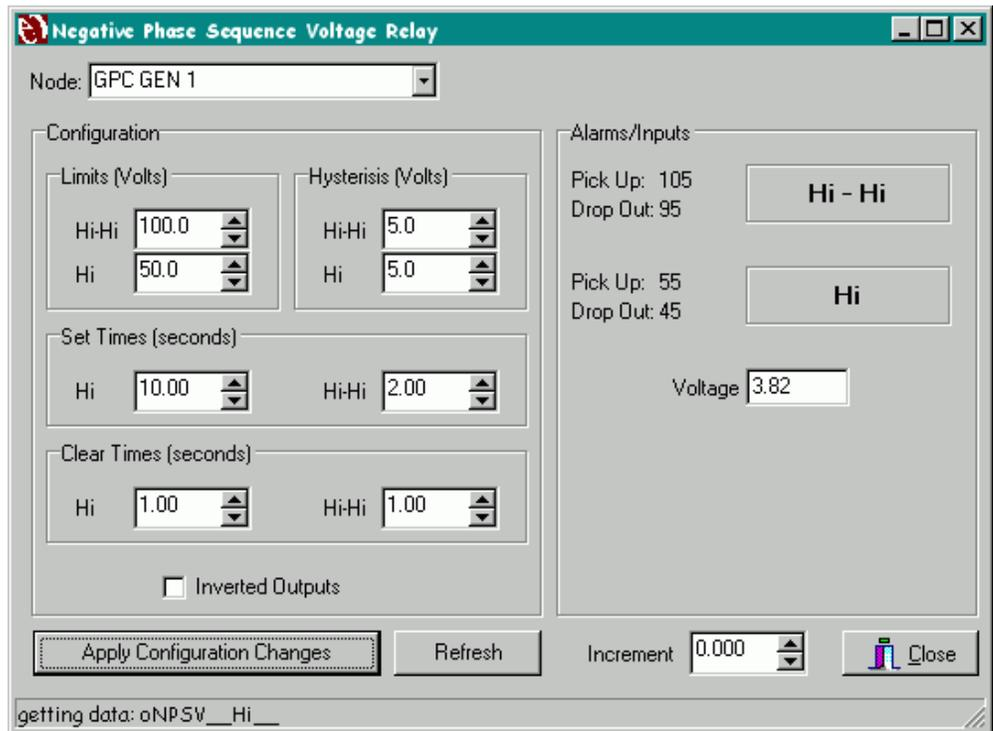

Figure 2-8 Negative Phase Sequence Voltage Relay
The NPS Voltage Relay shown in Figure 2-8 is used for the initial setup of enpower controls. This screen is used to setup the Negative Phase Sequence Voltage Relay. This protective relay is used to trip the breaker on high unbalanced voltage. Using this screen, the user can setup the high setpoints, hysteresis, and the set and clear times for the relay. This screen is associated with the enpower LonMark Object called Negative Sequence Voltage (47) (NPSV).